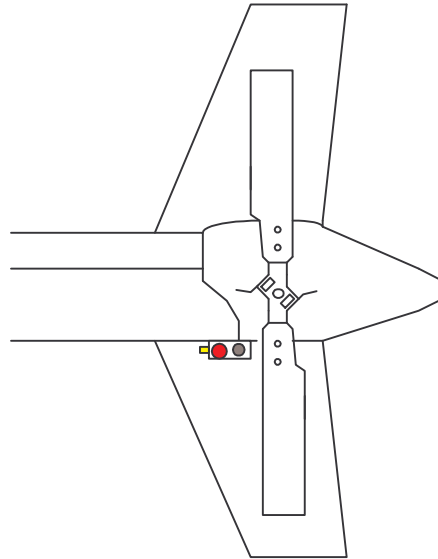

Figure 1
2. Install the Phototach/Sensor Mount (Item 7) under the tail boom at the 6:00 position. (Figure 1) Install Phototach (Item 3) into Mount and secure with nut. Install the 991D-1 Sensor (Item 5) into Mount. Ensure that Sensor connector faces the tail rotor.